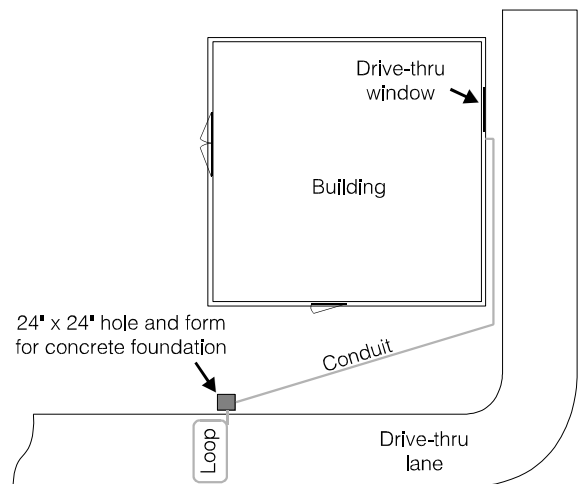

Figure 2. Typical site for concrete foundation
Step 1 Position the foundation so that water will drain away from the base of the speaker post. The top surface of the foundation must be six to ten inches above the surface of the drive-thru lane. The side of the foundation must be 2 feet or less from the side of the drive-thru lane, and parallel to the lane as shown in Figure 2.